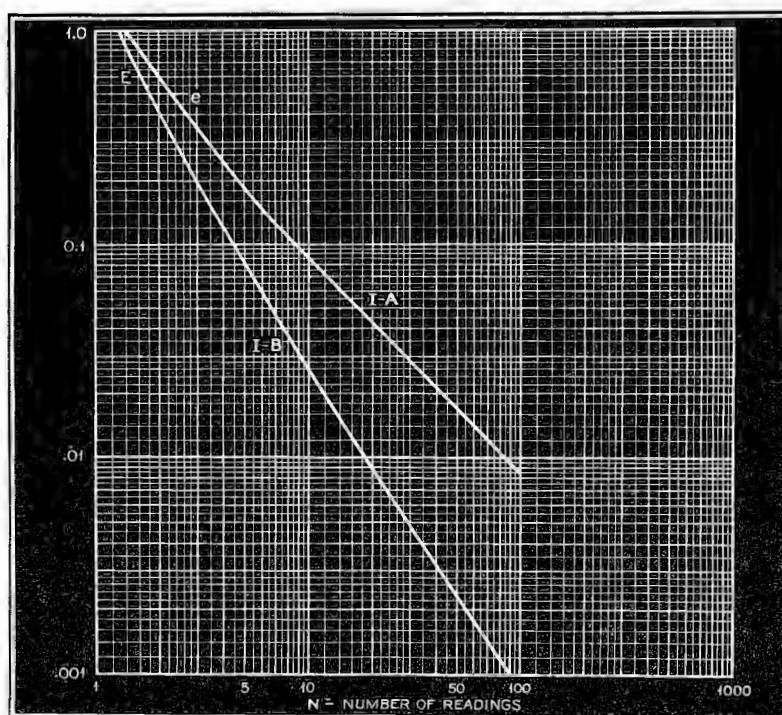

Figure 1
the function  $\varphi$  for both  $E$  and  $e$  is given as a function of  $n$ , as  $n$  varies by curves I-A and I-B, Figure 1. Both  $E$  and  $e$  may be determined readily by applying formula (1) where  $\varphi$  is determined from curve I.